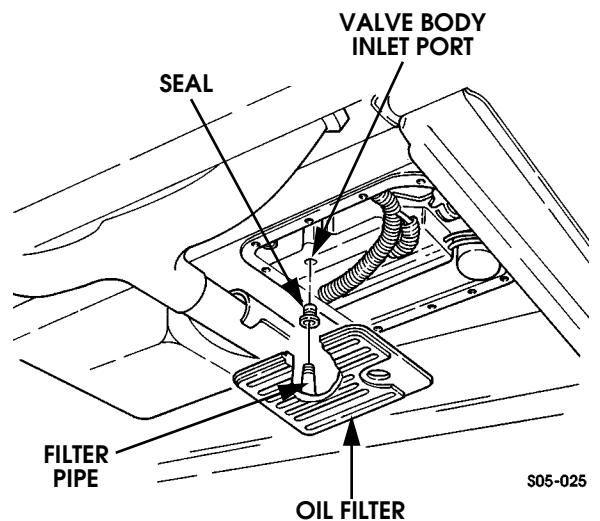

Figure 5-25: Oil Filter Removal/Installation
6. Remove oil filter from valve body (Figure 5-25).
7. Inspect filter seal (Figure 5-25). Undamaged seal is reusable.
10. Insert filter pipe in case with twisting motion. Align filter with valve body and work into place (Figure 5-25).